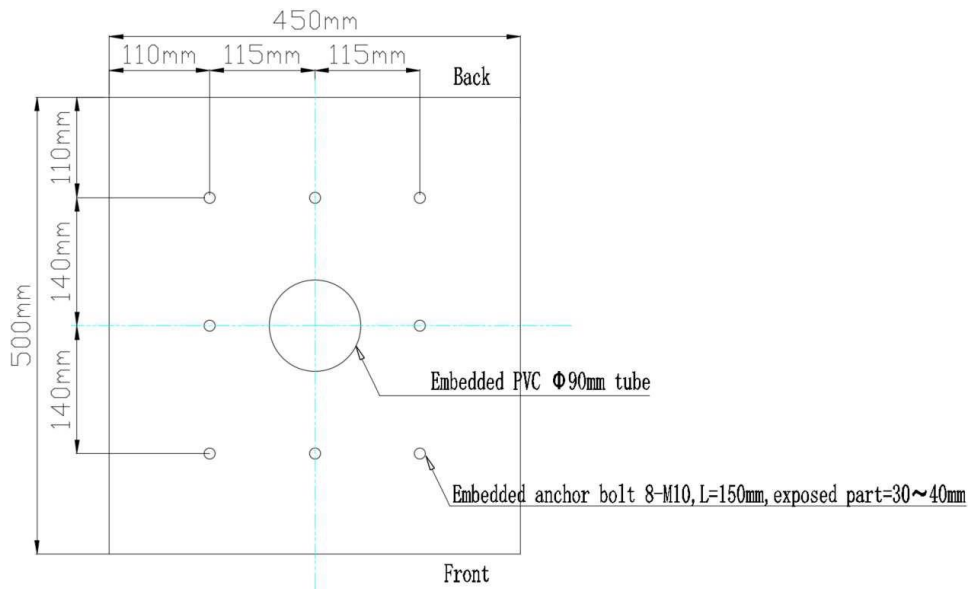
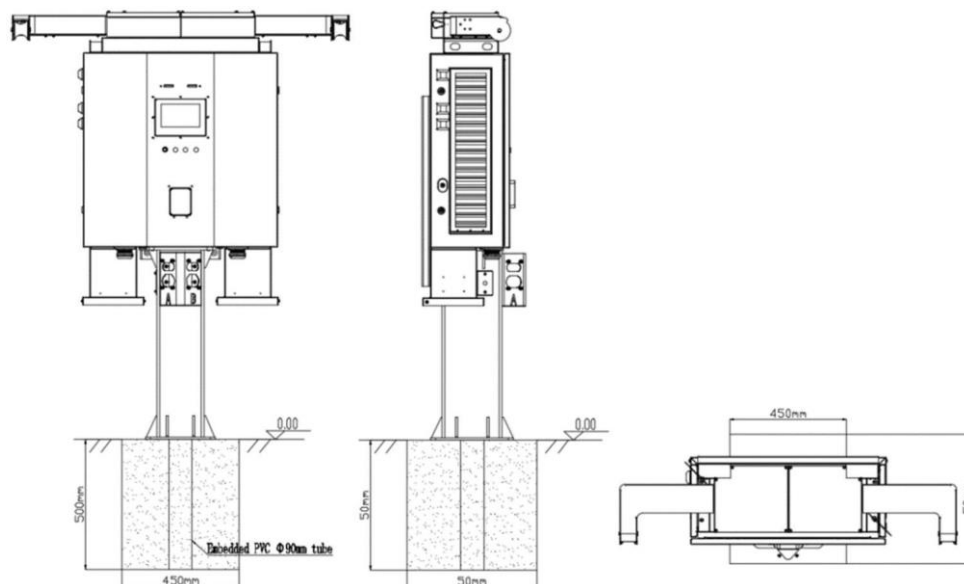

Figure 1 Top-view drawing of concrete foundation
Figure 2 The three-view drawing of construction
If there is no suitable place for installation on site, it is recommended to build a concrete foundation. The concrete foundation needs to be poured before the charger is installed. The size of the concrete foundation is 450mm*500mm*500mm, and the buried depth of the foundation is 500mm. The dimension of concrete foundation can be adjusted according to customer's requirements and actual conditions on site. The top view is shown in Figure 1 and the three-view drawing of construction is shown in Figure 2. The concrete foundation inspection requirements are as follows:
- (1) Pay attention to the level correction when pouring the foundation.
- (2) The foundation installation is higher than the ground level, and necessary maintenance spaces are reserved on site depending on the specific situation.
- (3) The foundation is filled with C25 concrete.
- (4) Reserve an outlet hole on the foundation for cable, as shown in the Figure1.
- (5) After the foundation is completed, use a spirit level to test the levelness.
- (6) According to the drawing positioning, 8 screws of M10*150 are pre-embedded in the concrete foundation in advance and expose 30 ~ 40mm on the upper surface of the concrete foundation.